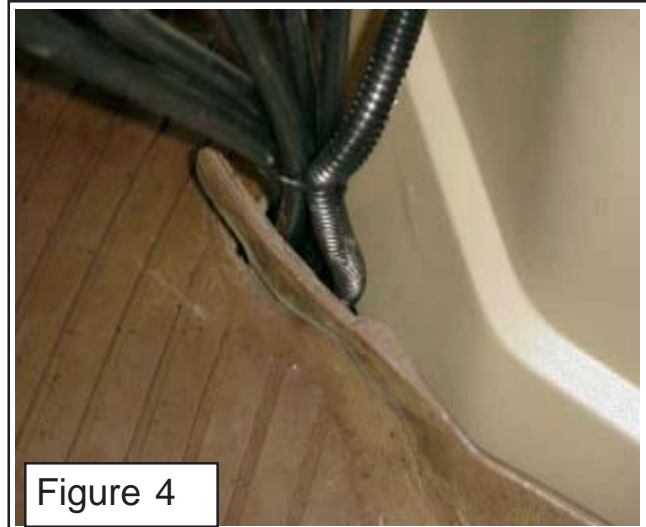
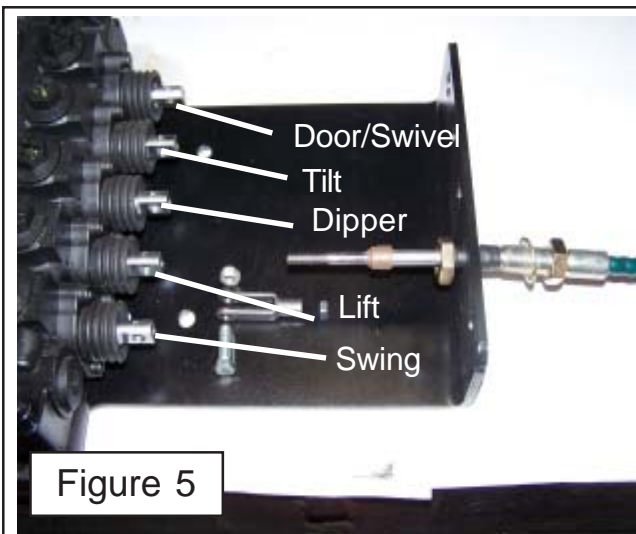
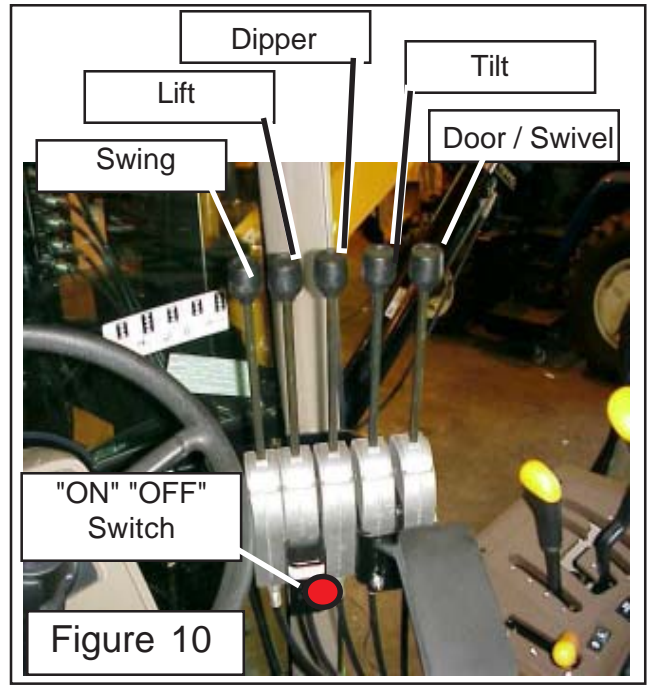

Figure 4
Figure 5
Figure 10
6. Cable Clevis Installation. Screw the cable clevis (item 7) onto the threaded cable (item 5) until the threads are fully engaged into the clevis. If the locking nut (item 6) needs to be run further onto cable, this is OK.
7. Connect Cable Clevis to Valve Spool. The cable clevis (item 7) is retained to the valve spool (item 10) with a bolt & locknut (item 8 & 9). The valve spool will have a hole in it and two flat side for the clevis to slide onto. Slide the clevis onto valve spool until the holes in clevis align with the hole in the valve spool. Install the clevis retaining bolt & locknut, but do not tighten them at this time. Continue this with the other four cables.
8. Mark Cables For Identification. The cable will be run up through the floor of the tractor (See Figure 4 as an example, actual routing may vary). It is recommended that the ends of the cables be marked before this is done to track which cable is which control function. Cable need to be marked as shown from left to right (See Figure 5).
11. Stack Control Handles. Each cable control handle will attach to the cable in the same way. The control handles will be stacked together in the proper order (See Figure 5 & 10). These control handles will be stacked with the mounting brackets and electrical switch brackets between them. Where the brackets are located in the group can vary. Shown in figure 10 is the recommended placement of these brackets. The bracket that mounts the control handles is slotted to allow for the adjustment of the angle of the control handle assemblies.
12. The "ON" / "OFF" Switch is bolted to the Control Handles. This is a good place but can be mounted somewhere else is desired. If Mounted somewhere else keep in mind it must be accessible quickly by the operator in case of emergency needs. (See Figure 10)